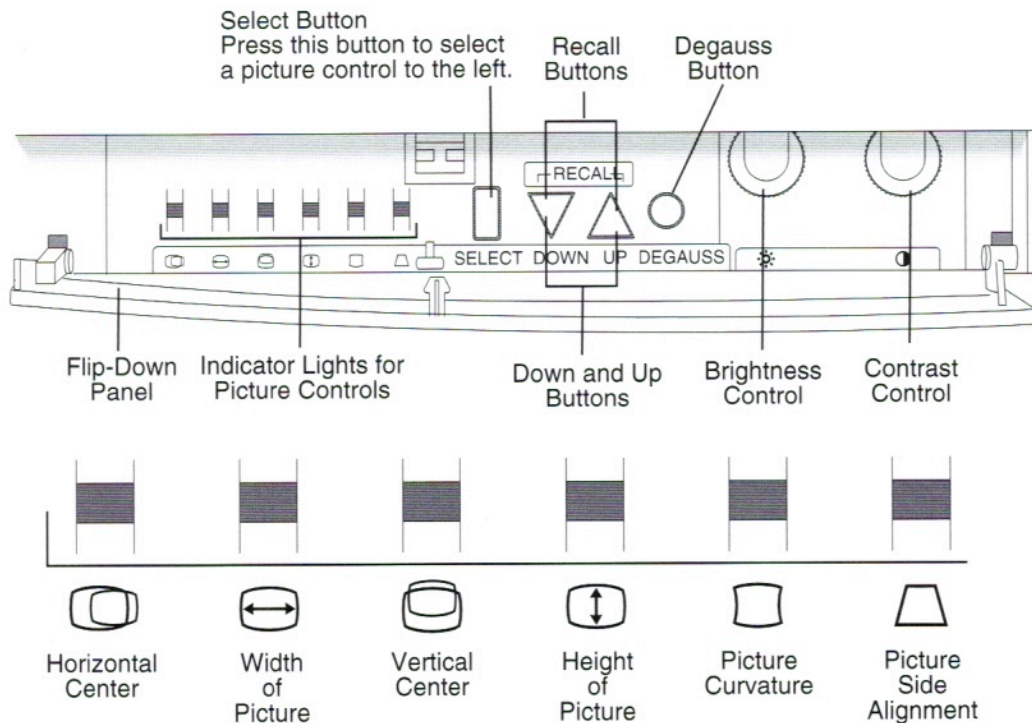

Figure 12. Apple Multiple Scan 1705 User Adjustments
2. Adjust brightness and contrast controls (see Figure 12).
1. Adjust brightness control. See Figure 12.
1. Press and hold the SELECT button until the indicator light for the horizontal center icon goes on (see Figure 12).
2. Press the DOWN and UP buttons (see Figure 12) to move the center of the picture left or right.
1. Press and hold the SELECT button until the indicator light for the width icon goes on (see Figure 12).
2. Press the DOWN and UP buttons (see Figure 12) to narrow or widen the picture.
1. Press and hold the SELECT button until the indicator light for the vertical center icon goes on (see Figure 12).
2. Press the DOWN and UP buttons (see Figure 12) to move the center of the picture down or up.
1. Press the SELECT button until the indicator light for the height icon goes on (see Figure 12).
2. Press the DOWN and UP buttons (see Figure 12) to decrease or increase the height of the picture.
1. Press and hold the SELECT button until the indicator light for the picture curvature icon goes on (see Figure 12).
2. Press the DOWN and UP buttons (see Figure 12) to change the arch of the picture border.
1. Press and hold the SELECT button until the indicator light for the side alignment icon goes on (see Figure 12).
2. Press the DOWN and UP buttons (see Figure 12) to change the alignment.
Press the DEGAUSS button (see Figure 12) to degauss the monitor.